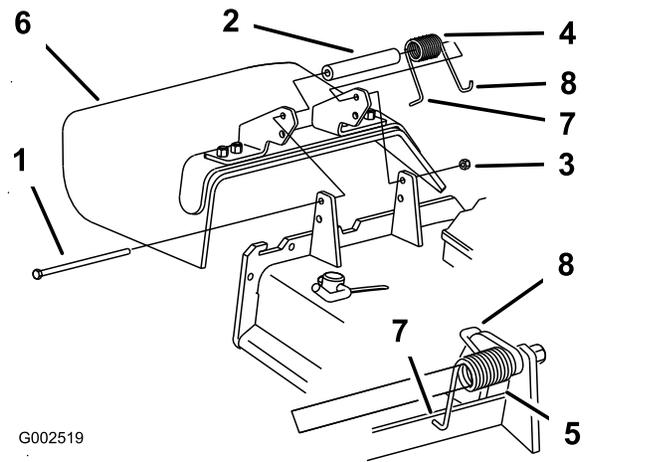

Figure 115
1. Remove the locknut, bolt, spring and spacer holding the deflector to the pivot brackets (Figure 115).
Note: Make sure that the L end of the spring is installed behind the deck edge before installing the bolt as shown in Figure 115
5. Place the J-hook end of the spring around the grass deflector (Figure 115).